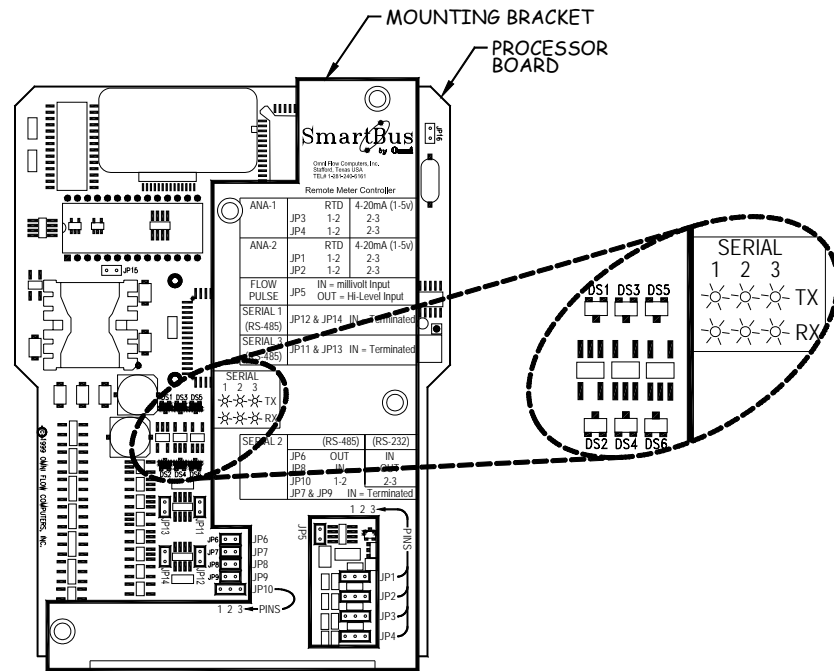

Figure 4-10. Location of serial port indicator LEDs on the processor board.
A RED transmit (TX) LED indicator and a GREEN receive (RX) LED indicator are provided on the processor board for each individual serial port. When the transmit LED is glowing red, the corresponding serial port is actively sending (output) signals. When the receive LED is glowing green, then the serial port is receiving (input) signals. Figure 4-10 shows the location of serial port (#1, #2, #3) LED indicators.